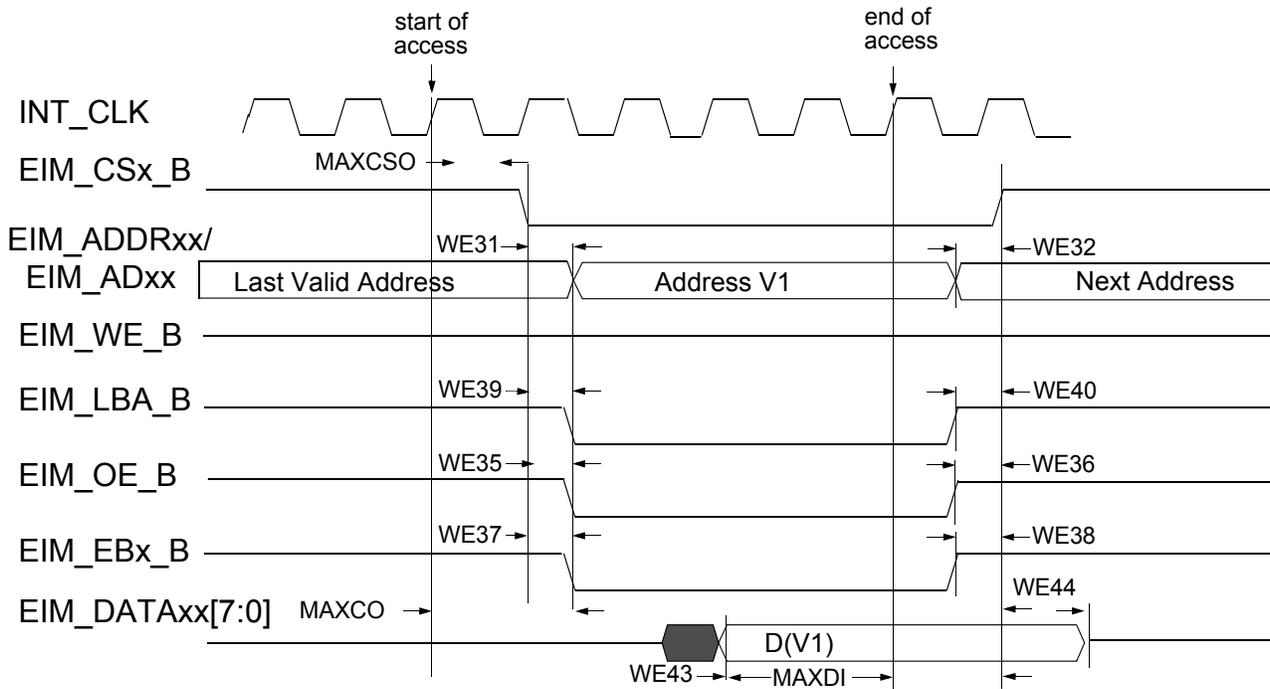
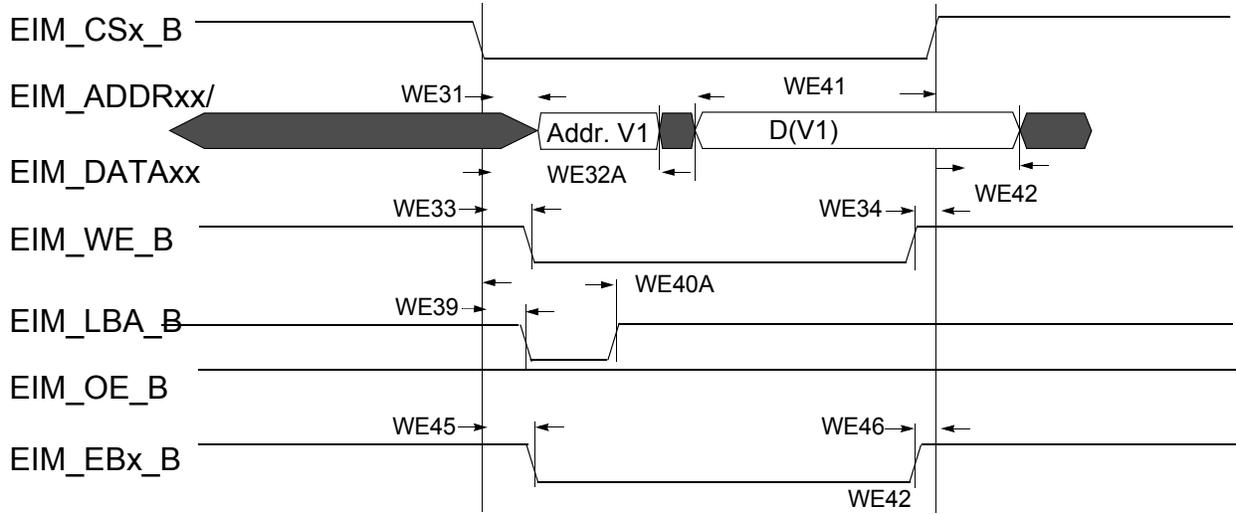
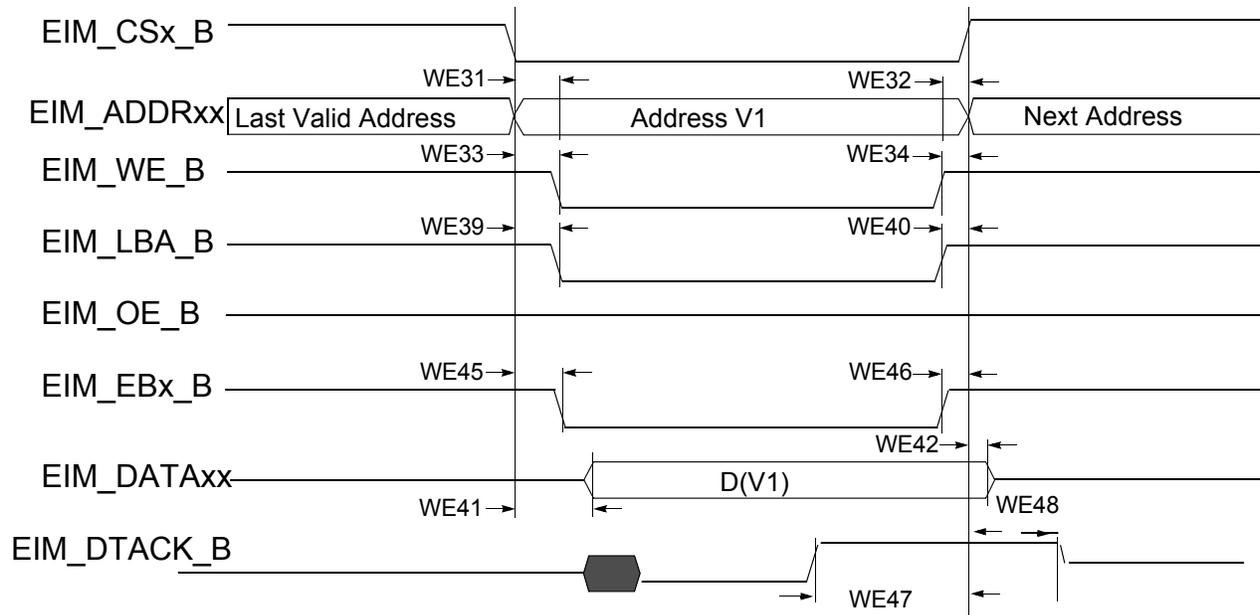

Figure 16. Asynchronous Memory Read Access (RWSC = 5)
Figure 19. Asynchronous A/D Muxed Write Access
Figure 21. DTACK Mode Write Access (DAP=0)
Figure 16 through Figure 21, and Table 44 help you determine timing parameters relative to the chip select (CS) state for asynchronous and DTACK EIM accesses with corresponding EIM bit fields and the timing parameters mentioned above.
Asynchronous read & write access length in cycles may vary from what is shown in Figure 16 through Figure 19 as RWSC, OEN and CSN is configured differently. See the *ii.MX 6SoloX Applications Processor Reference Manual (IMX6SXR)* for the EIM programming model.